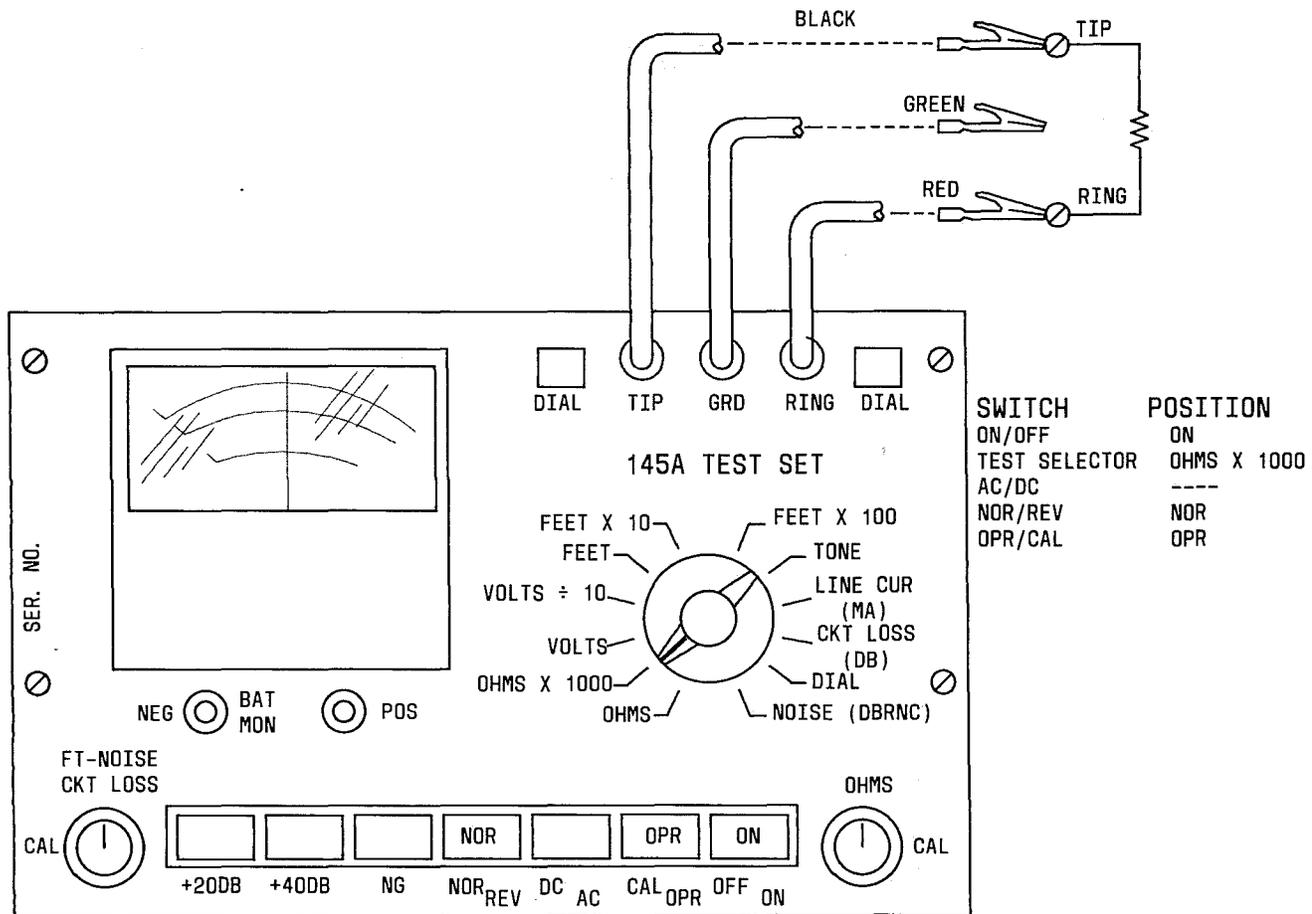

Fig. 4—Resistance Testing
4.01 **Resistance Testing (Fig. 4):** The following steps must be used when making this test: